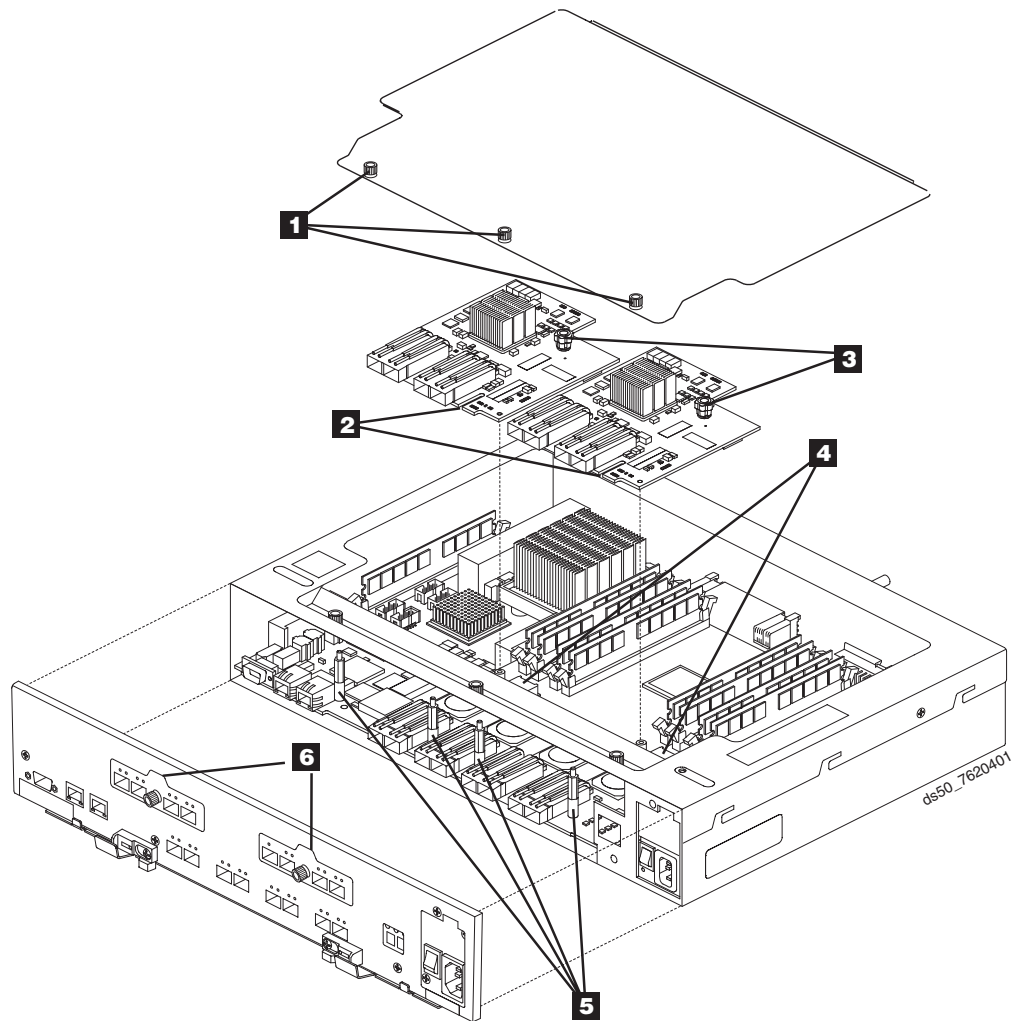

Figure 112. Removing controller cover and replacing host interface card
14. Remove the top cover as shown in Figure 112 on page 180.
Table 53. Description of Figure 112
22. Reinstall the host interface card port cover you removed in step 18 using the thumbscrew. See Figure 112 on page 180 for an illustration of a host interface card port cover.